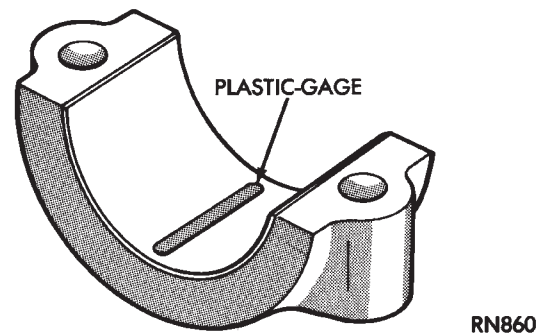
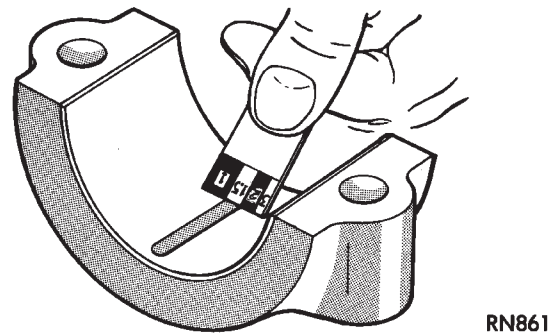

Fig. 2 Plastigage Placed in Lower Shell
Fig. 3 Clearance Measurement
(3) Place a piece of Plastigage across the entire width of the bearing shell in the cap approximately 6.35mm (1/4 inch) off center and away from the oil holes (Fig. 2). (In addition, suspect areas can be checked by placing the Plastigage in the suspect area). Torque the bearing cap bolts of the bearing being checked to the proper specifications.
(4) Remove the bearing cap and compare the width of the flattened Plastigage (Fig. 3) with the metric scale provided on the package. Locate the band closest to the same width. This band shows the amount of clearance in thousandths of a millimeter. Differences in readings between the ends indicate the amount of taper present. Record all readings taken. Refer to Engine Specifications. **Plastigage generally is accompanied by two scales. One scale is in inches, the other is a metric scale.**
(5) Plastigage is available in a variety of clearance ranges. The 0.025-0.076mm (.001-.003 inch) is usually the most appropriate for checking engine bearing proper specifications.
(1) Rotate the crankshaft until the connecting rod to be checked is at the bottom of its stroke.
(2) Remove oil film from surface to be checked. Plastigage is soluble in oil.
(3) Place a piece of Plastigage across the entire width of the bearing shell in the bearing cap approximately 6.35 mm (1/4 inch.) off center and away from the oil hole (Fig. 2). In addition, suspect areas can be checked by placing plastigage in the suspect area.
(4) Before assembling the rod cap with Plastigage in place, the crankshaft must be rotated until the connecting being checked starts moving toward the top of the engine. Only then should the cap be assembled and torqued to specifications. **Do not rotate the crankshaft while assembling the cap or the Plastigage may be smeared, giving inaccurate results.**
(5) Remove the bearing cap and compare the width of the flattened Plastigage (Fig. 3) with the metric scale provided on the package. Locate the band closest to the same width. This band shows the amount of clearance in thousandths of a millimeter. Differences in readings between the ends indicate the amount of taper present. Record all readings taken. Refer to Engine Specifications. **Plastigage generally is accompanied by two scales. One scale is in inches, the other is a metric scale.**
(6) Plastigage is available in a variety of clearance ranges. The 0.025-0.076mm (.001-.003 inch) is usually the most appropriate for checking engine bearing proper specifications.